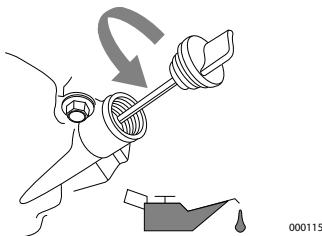

Figure 4-2. Engine Oil Fill
3. See **Figure 4-2**. Remove oil fill cap and wipe dipstick clean.